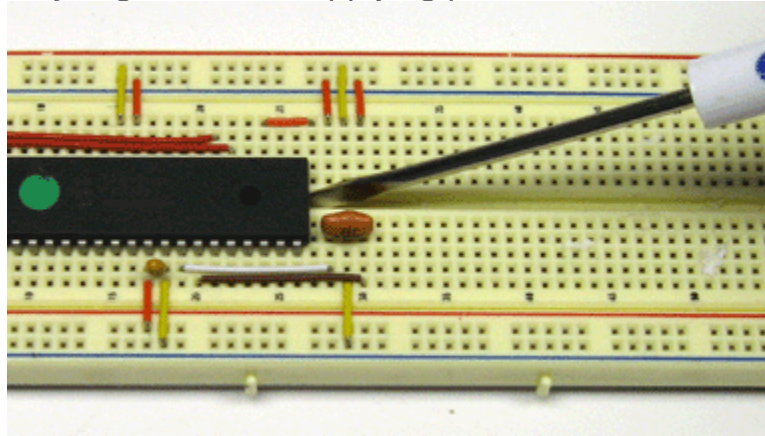

Figure 4. Safely removing the microcontroller from the breadboard.
- The microcontroller will need to be removed only in rare instances, but extreme care should be taken whenever removal is necessary. Figure 4